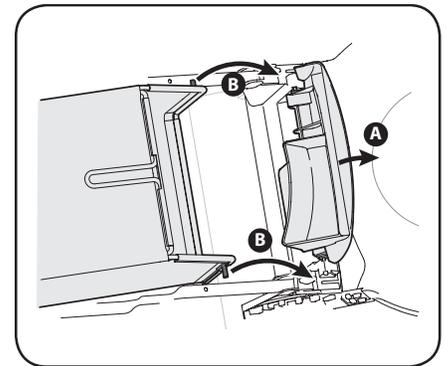

Figure 2-7
1. Follow steps below to attach grass catcher to mower. See Figure 2-7.